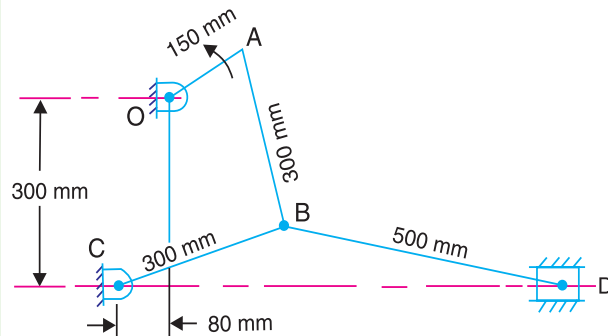

Fig. 7.41
11. Fig. 7.41 shows a toggle mechanism in which link D is constrained to move in horizontal direction. For the given configuration, find out : 1. velocities of points B and D ; and 2. angular velocities of links AB , BC , and BD .